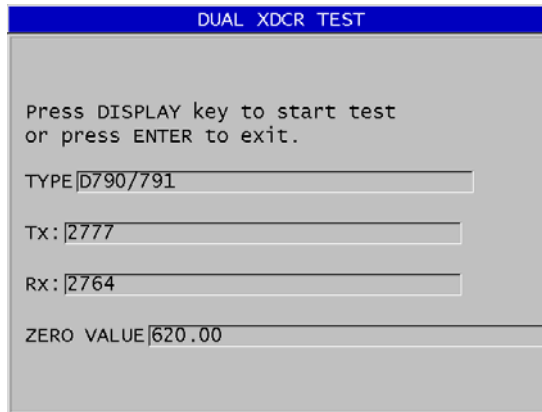

Figure 15-3 The DUAL XDCR TEST screen
7. When **DUAL XDCR TEST** is selected, in the **DUAL XDCR TEST** screen (see Figure 15-3 on page 269):